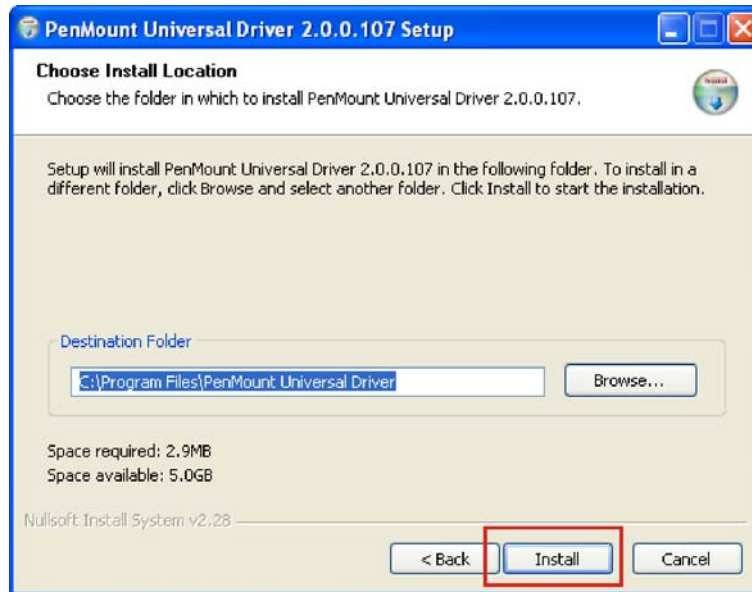

Figure 6-25: Windows Logo Testing
Step 8: The Choose Install Location window appears (Figure 6-25).
Step 9: Choose the installation directory. The default directory is recommended (Figure 6-25).